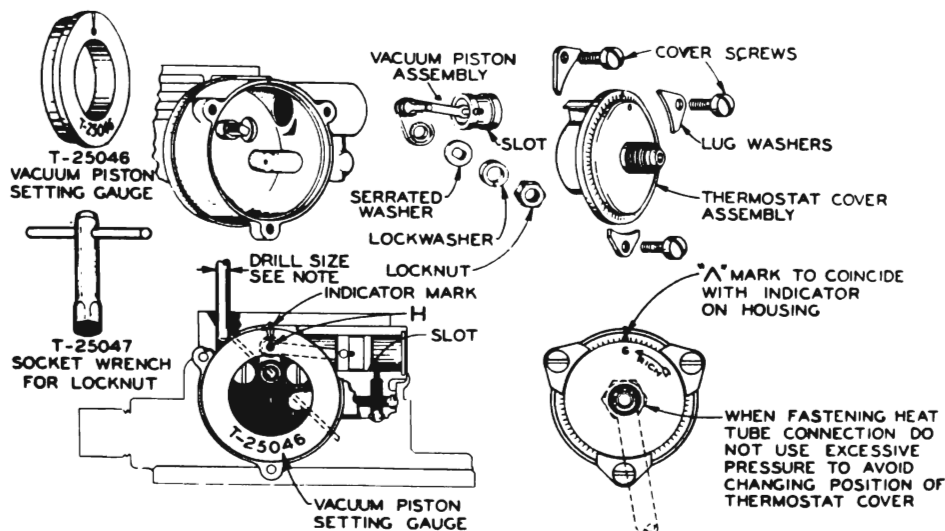

Fig. 6-72. Choke Control, Disassembled
2. Remove thermostat cover screws and lug washers. Thermostat cover assembly can then be taken off of the choke housing. See Fig. 6-72.
1. Place vacuum piston in cylinder with slot on piston assembled *down*. **This is very important. Also do not use any type of lubricant on piston or in the cylinder.** Assemble lever onto choke stem. Next assemble serrated washer, lockwasher, and locknut, fastening the nut finger tight. See Fig. 6-72.